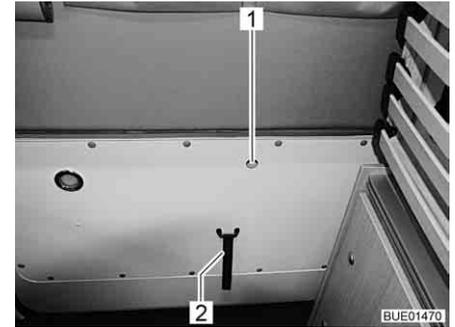

Fig. 36 Release button for rear flap, interior
- Using your finger, pull the little lever in the opening (Fig. 36,1) upwards, simultaneously pressing against the rear flap.
- Hold the edge of the tailgate or strap (Fig. 36,2) and close the tailgate.